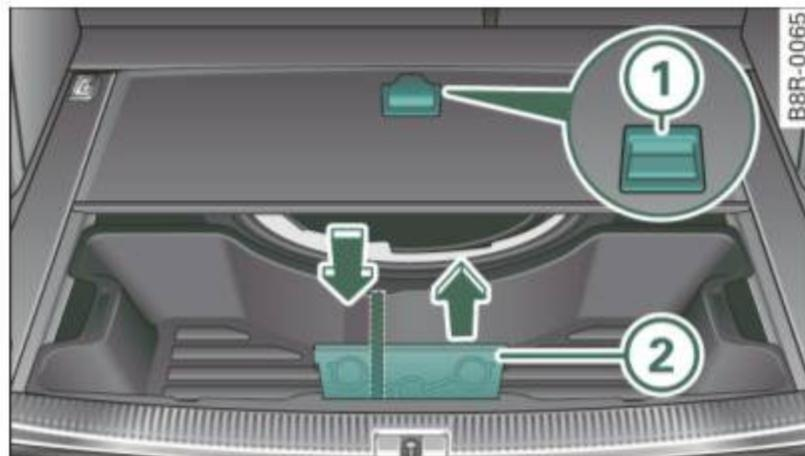

Fig. 83 Luggage compartment: cargo floor folded together with protective tray
- Lift the cargo floor by the handle ⇒ fig. 83 ① and fold it up.